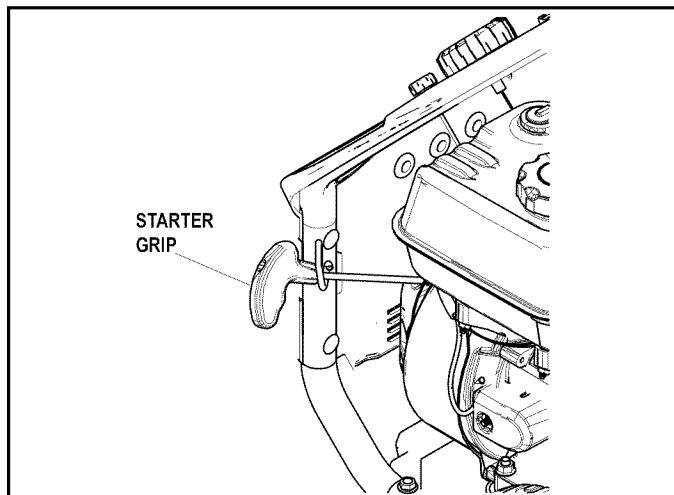

Figure 5-5. Starting the Engine
- When starting the engine, grasp starter grip handle (Figure 5-5) and pull slowly until you feel some resistance. Then pull rapidly to start engine.